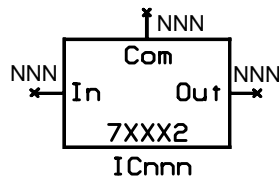

Figure 4. 5
Pin numbers have not been assigned yet, so NNN will appear, as shown in Figure 4. 5
**Value and Ident Positions** - The position for the symbol's identification, IC1, 2, etc. is defined by selecting **Text ⇒ Place Ident**, then selecting the position required. (Refer to Figure 4. 5 for positional information.) At this stage ICnnn will appear as the numbers are assigned when the part is used on the circuit diagram.